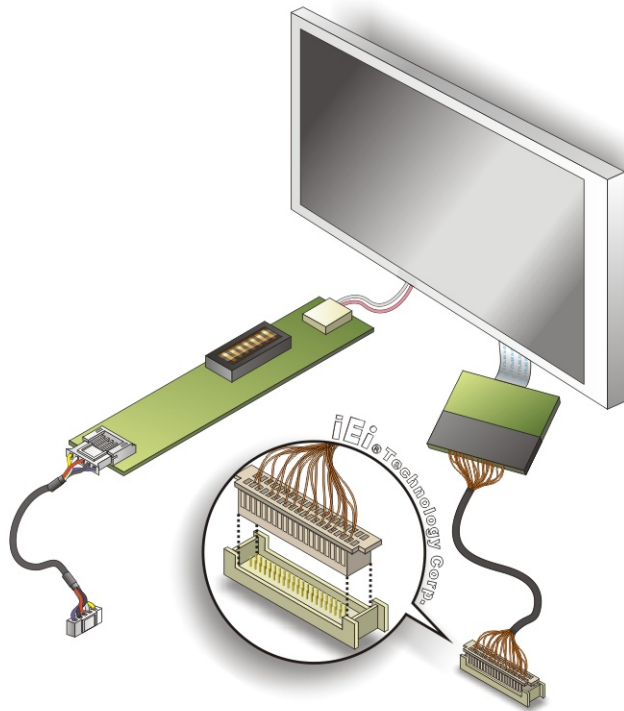

Figure 4-5: LVDS Connector
Step 2: Insert the cable connector. Insert the connector from the LVDS PCB driving board to the LVDS connector as shown in **Figure 4-5**. When connecting the connectors, make sure the pins are properly aligned.